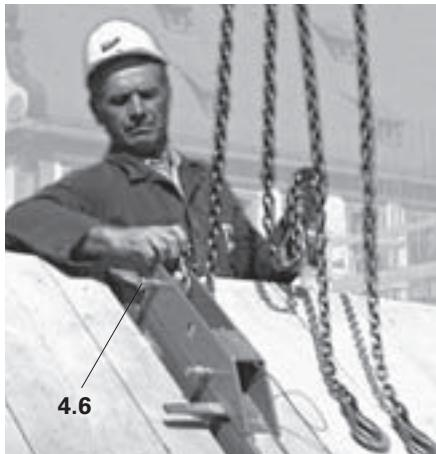

Fig. B1.19
3. Attach 4-sling lifting gear to the bolts Ø 25 (4.6) on the carriage. (Fig. B1.19)